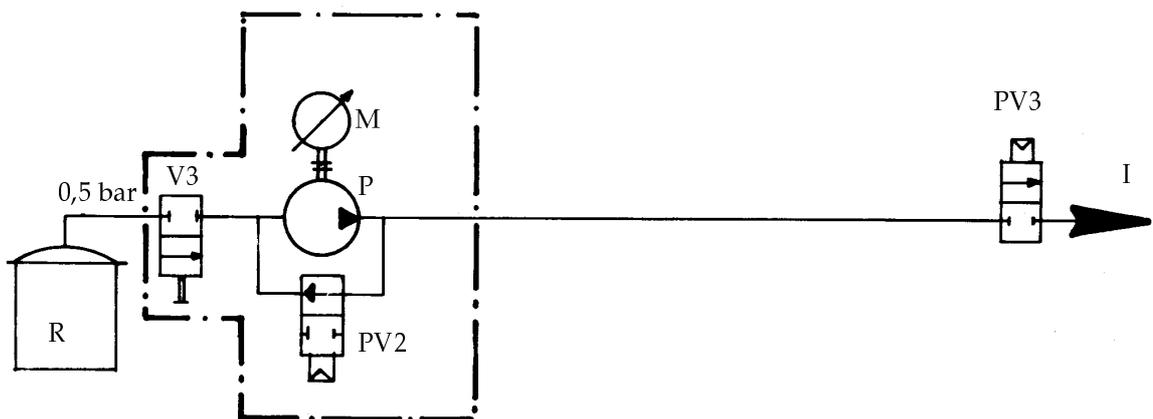

Figura 9
5.3. MONTAGGIO CON PNEUMOVALVOLA DI BY-PASS SULLA POMPA (VEDERE FIGURA 9)